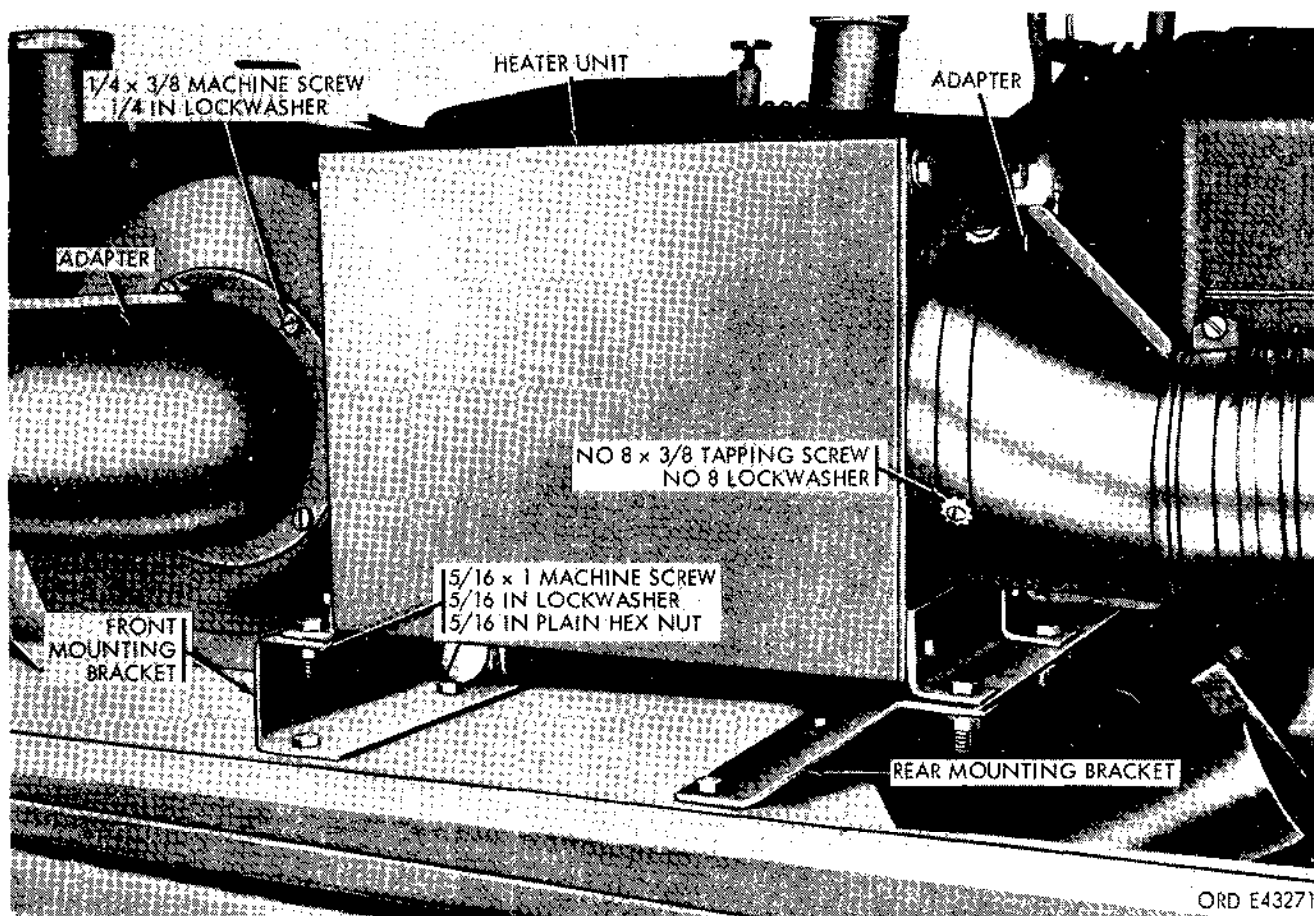

Figure 3-2. Heater unit—side view.
(4) Remove the screws and lockwashers securing the adapter to the rear of the heater unit (fig. 3-2). Remove the adapter.
(5) Remove the screws and lockwashers securing the adapter to the blower end of the heater unit (fig. 3-2). Remove the adapter.
(6) Unscrew the nuts and remove the screws and lockwashers securing the heater unit to the front end and rear mounting brackets (fig. 3-2).
(1) Secure the heater unit to the front and rear mounting brackets with the lockwashers, screws, and nuts (fig. 3-2).
(2) Secure the adapter to the rear of the heating unit with the lockwashers and screws (fig. 3-2).
(3) Assemble the front adapter to the blower with the lockwashers and screws (fig. 3-2).
(4) Slide the inlet and outlet ducts onto their